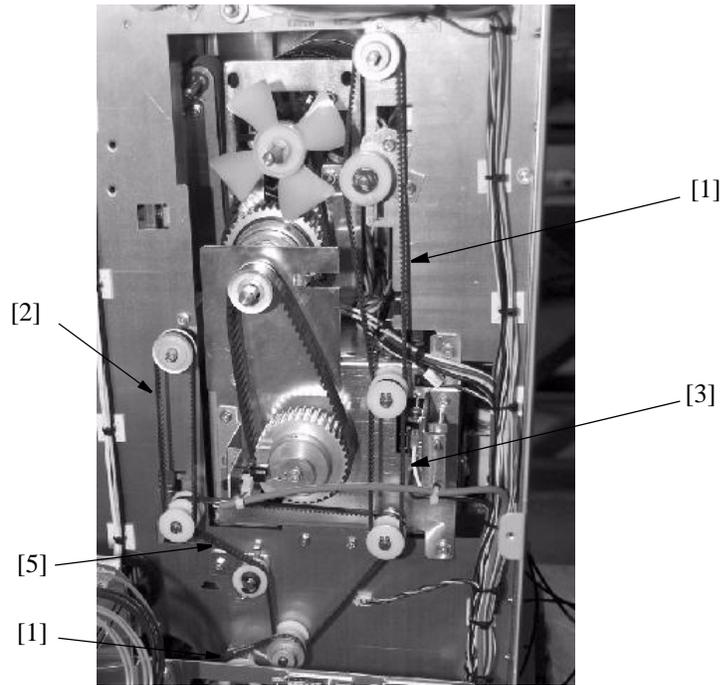

Figure 4.81 Order of Belt Removal.
2. Remove the belts in order as shown in Figure 4.81.